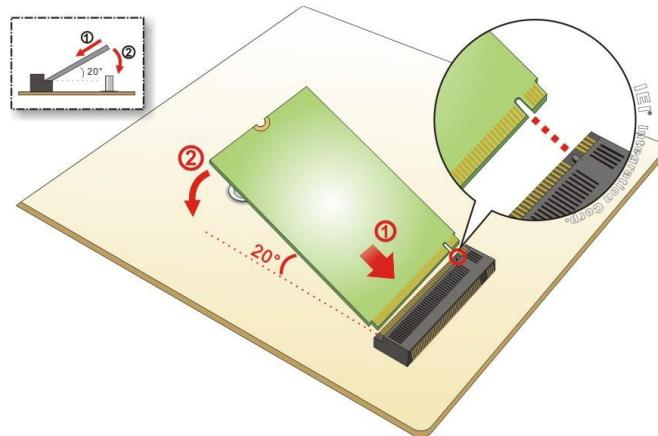

Figure 3-9: Inserting the M.2 Module into the Slot at an Angle
Step 3: Line up the notch on the module with the notch on the slot. Slide the M.2 module into the socket at an angle of about 20° (**Figure 3-9**).